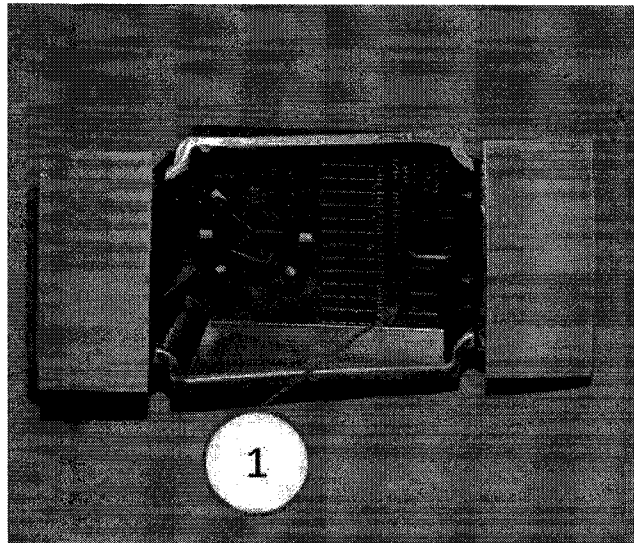

Fig. 7 Safety Sensor Bracket
11. Identify left and right sensor bracket looking the RH or LH markers(Fig. 7).
17. Carefully apply the tape pieces to each of the sensor bracket mounting tabs. Centering each piece to cover the entire mounting tab. Do not remove the opposing protective backing from the tape pieces until ready to install brackets to the fascia(Fig. 7) and (Fig. 10).